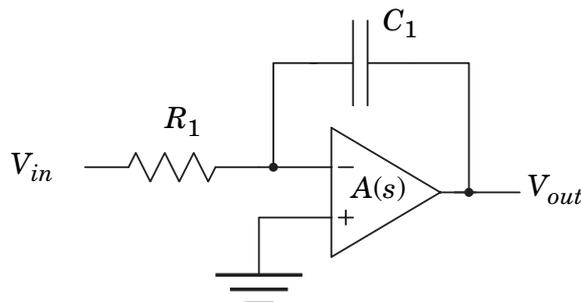

Figure 3.1 An operational amplifier in a context.
- a) Derive the DC gain and the poles of the circuit shown in Figure 3.1. Assume that $C_1 R_1 > 1/p_1$. Motivate all your approximations carefully. The gain of the amplifier is given by: (6p)